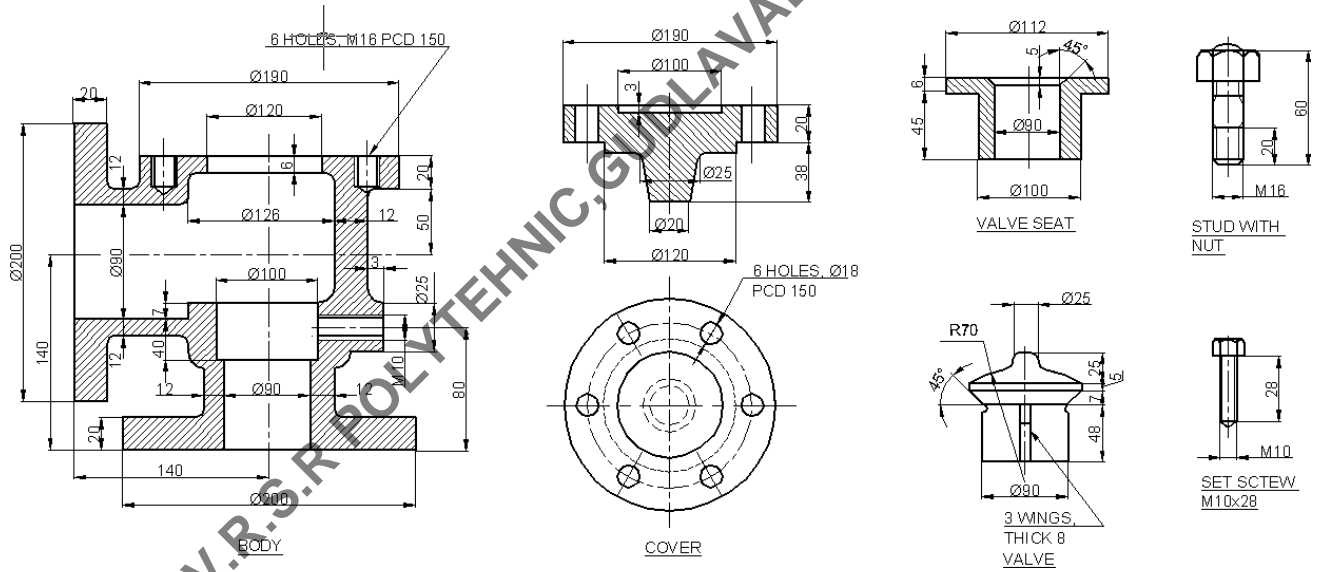

Fig.1 Parts of Non Return valve.
- Instructions:** (1) Answer any one question.
(2) Each question carries forty marks.
(3) All dimensions are in mm.
(4) Choose suitable scale
5.) Fig1. Shows the details of Non-return valve . Assemble all the parts and draw the following views of the assembly at scale 1:2 .